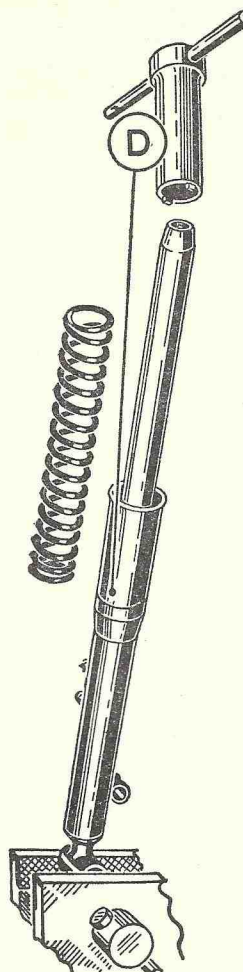

Fig. X2.
To dismantle the lower section of the fork hold the fork sliding tube by gripping the wheel spindle lug in a soft-jawed vice and lift off the spring (see Fig. X2).
Enter Service Tool part number 61-3005 until the dogs on the tool engage in the slots at the bottom of the oil seal holder (D) Fig. X2. Pressing the tool down and turning at the same time unscrew the oil seal holder. Slide the holder up the shaft until it becomes tight on the tapered section of the shaft. Do not use excessive force or the oil seal may be damaged.